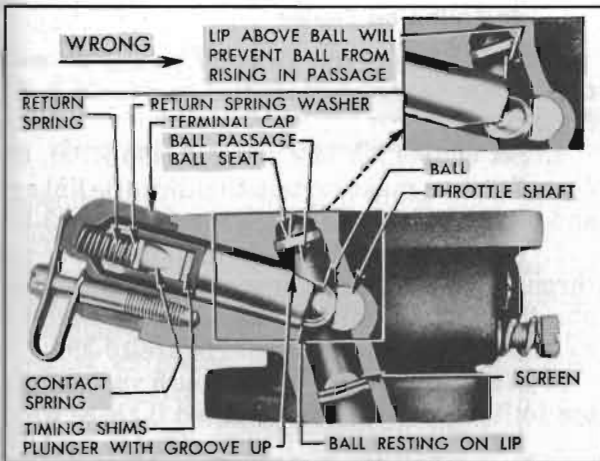

Figure 10-34—Assembly of Carter Accelerator Vacuum Switch
8. Place plunger in position with the groove up so that the ball rests on lip at inner end of plunger. See figure 10-34. If the plunger is installed with groove down, the ball will be prevented from rising into the ball passage when the engine starts. As a result, the switch will close each time the throttle is opened, causing gear clash at low speeds when the generator is not producing sufficient voltage to open the solenoid relay. If generator should be inoperative, gear clashing would occur at all speeds.
9. Make sure that all timing washers, contact spring, and the return spring washer are in proper position before installing the return spring and terminal cap. Make sure that terminal cap is properly seated. See figure 10-34.